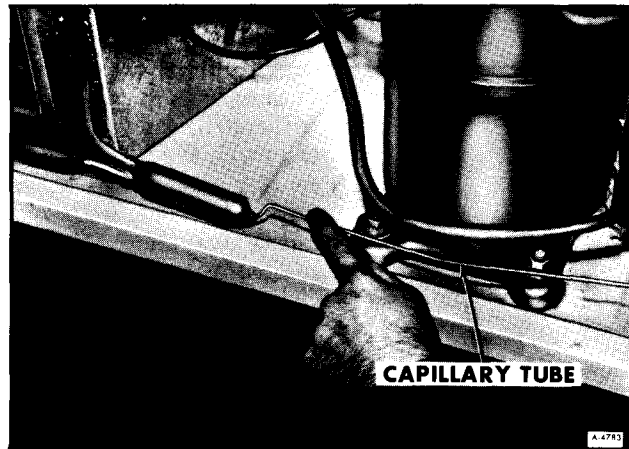

Figure 13—Capillary Tube Obstruction Check
1. Compressor starts and runs. 2. Temperature check. 3. Clean components, fan motor rotation. 4. Leaks or kinks 5. Capillary tube obstruction (figure 13).	1. If the compressor starts and runs then the problem is in the refrigeration system and more checks can be made. If the compressor fails to start and/or run steadily, check the electrical system. 2. Place a good refrigeration thermometer close to the center on both the return and blower sides of the evaporator. If the temperature difference is from 18 to 23°F. (9 to 13°C.), the system is okay. It is cooling the air as much as it can. If the temperature difference is less than 18°F. (9°C.), check further before opening the refrigeration system. 3. Clean any dirt or obstructions that may effect the operation of the air filter, blower wheel, and evaporator fins. Check fan motor rotation. Blower should pull air through evaporator without obstruction. 4. Inspect coils, lines, and connections for pinch, kink, or obvious leak indicated by compressor oil. 5. Feel along the capillary tube for a temperature change. It should be the same temperature at both ends. If not, it is restricted, and must be replaced.